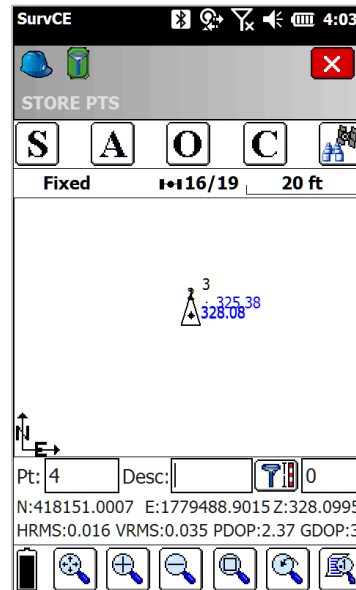

Figure 6
2. Tap the Store Points button to open the live map screen(Fig.6). If GPS is active you will see coordinates displayed at the bottom and a triangle around your location on the map